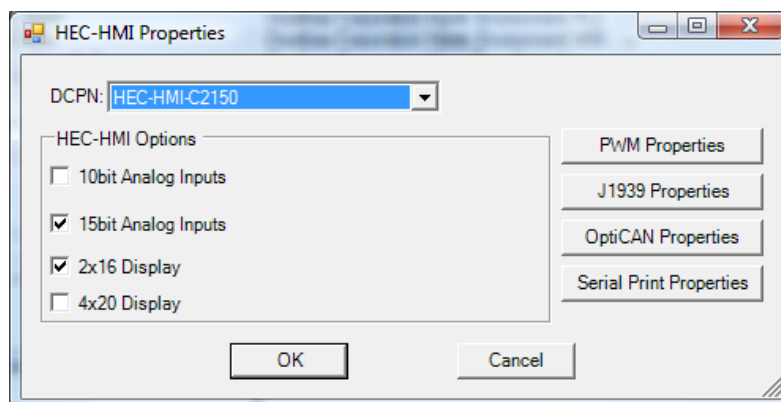

Figure 44 - HEC-HMI Properties Window
2. Click the **PROPERTIES** button. The HEC-HMI Properties Window will open. Refer to Figure 44.